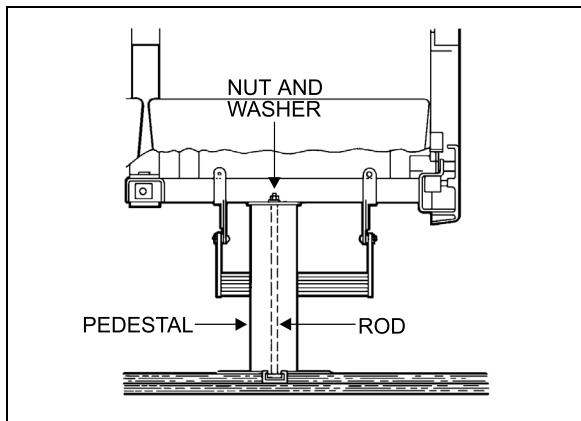

FIGURE 91: SEAT PEDESTAL ASSEMBLY
- Remove 2 nuts and washers holding seat frame to pedestal rods. See Figure 91.